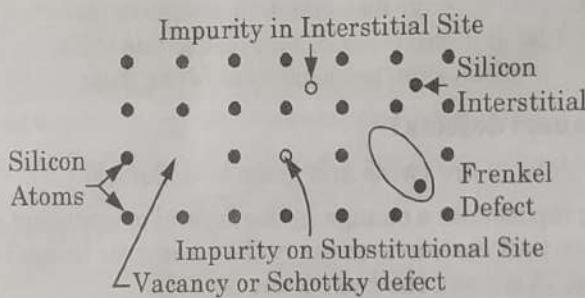

Fig. 1.7.1. The location and types of point defects in a simple lattice.
- Point defects take several forms as shown in Fig. 1.7.1 Any non-silicon atom incorporated into the lattice at either a substitutional (*i.e.*, replacing a host silicon atom) or interstitial (*i.e.*, between silicon atoms) site is considered a point defect.